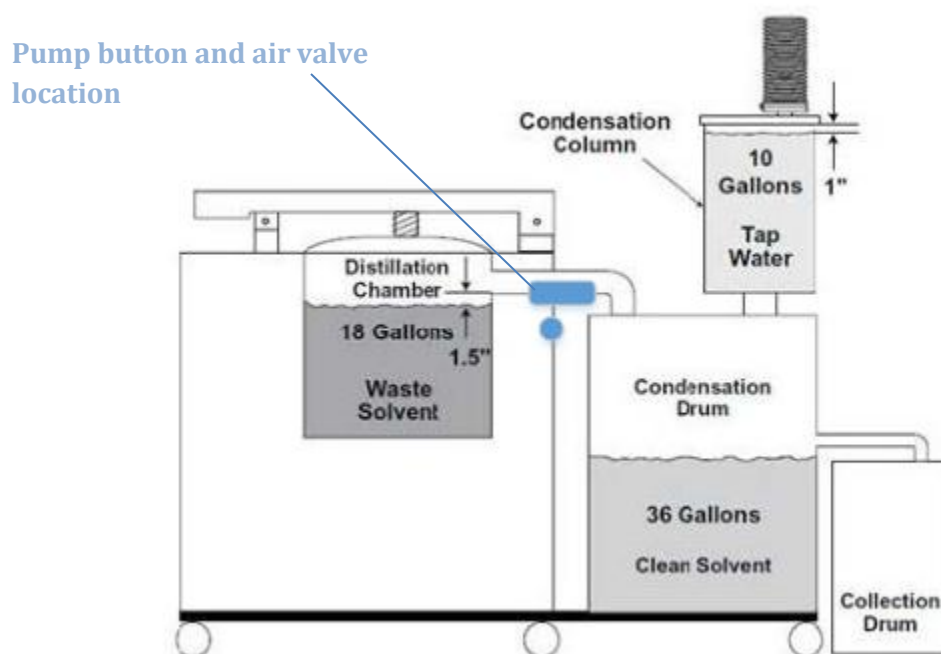

Figure 4—A18 Cutaway
As seen in Figure 4, the collection vessel provided with the unit is the only vessel to be used for the collection of distilled solvent. This vessel holds a maximum of 18 US Gallons (68 liters). It is fully mobile and has its own pump to pump fluid into drums when the cycle is completed. The pump is pneumatically powered and is operated with a push button near the pump button, as shown in Figure 4. The collection drum comes equipped with a grounding clamp to connect the unit to a suitable ground.
2. Turn Air Valve to the on position (valve located near the pump button as seen in Figure 4).